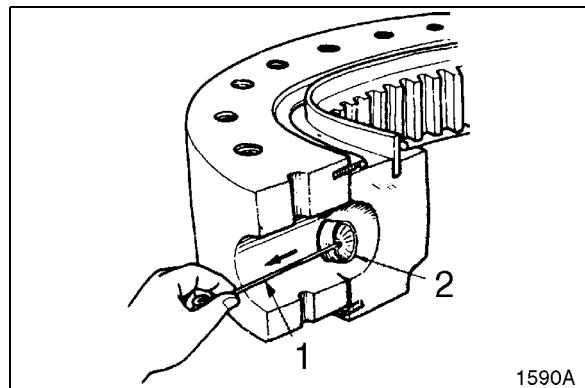

Figure 7
5. Turn inner ring and use wire (1, Figure 7) to remove retainers (2).